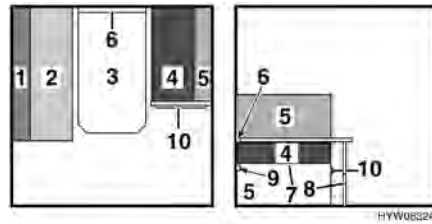

Fig. 32 Prior to conversion
- Place the seat cushions (Fig. 32,2 and 4) in an upright position.
- Slightly raise the front of the table-top (Fig. 32,3).
- Release the locking device fitted to the table leg (Fig. 32,8) and fold the lower half of the table leg backwards by 90°.
- Raise the table-top (Fig. 32,3) by approx. 45°, remove it from the upper mounting rail (Fig. 32,6) and hold it at an angle of 45°.